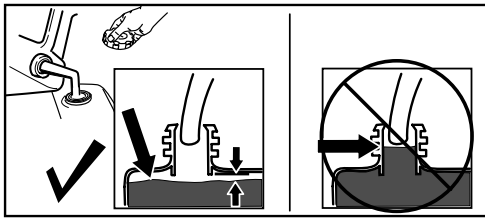

Figure 14
Do not fill above the bottom of the fuel tank neck (Figure 14).
- Remove an obstruction from the discharge chute; refer to Clearing a Clogged Discharge Chute \(page 17\). Use the snow-cleanout tool (Figure 14), not your hands, to remove an obstruction from the discharge chute.